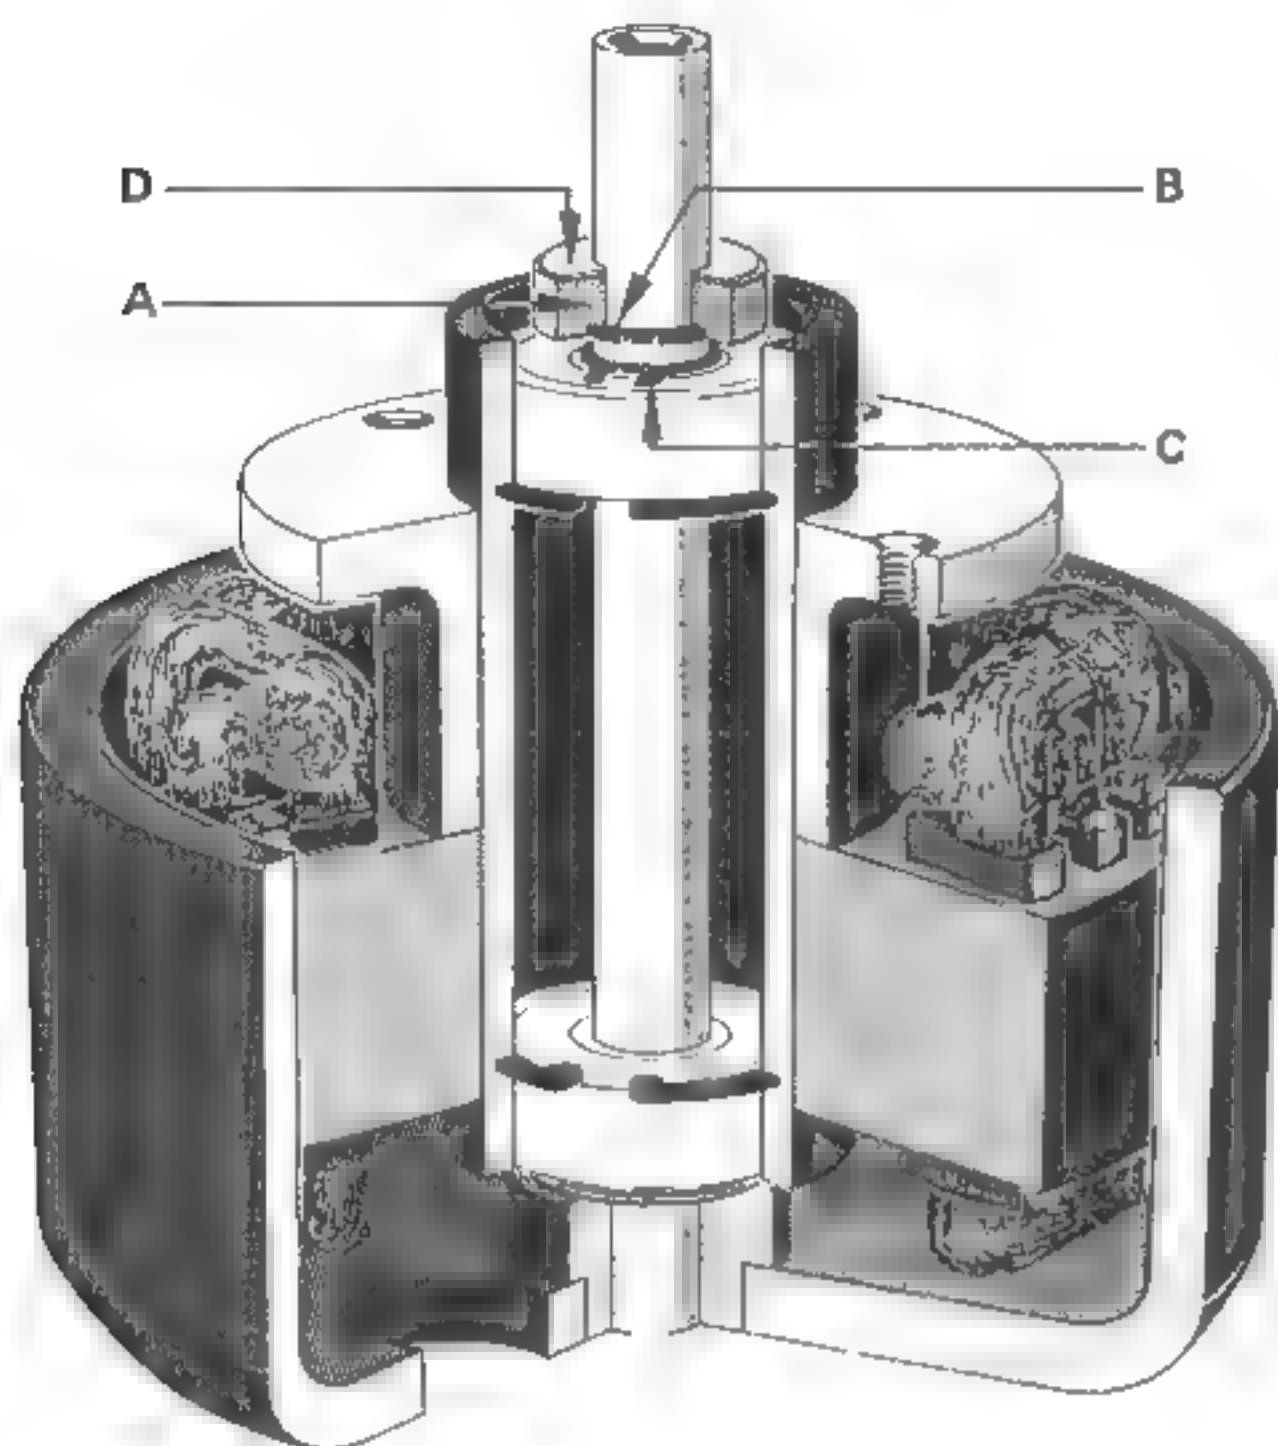

Fig. 4.5—27
4.5. Capstan Motor (with Ball Bearing) Fig. 4.5.-26
All bearings are lubricated for their life and should normally require no service. They shall be exchanged only with original bearings, in case of malfunction. If the capstan axis is exchanged, the upper felt washer of sintered bearing D (fig. 4.5—26) is to be lubricated with some drops MOBIL DTE extra heavy.